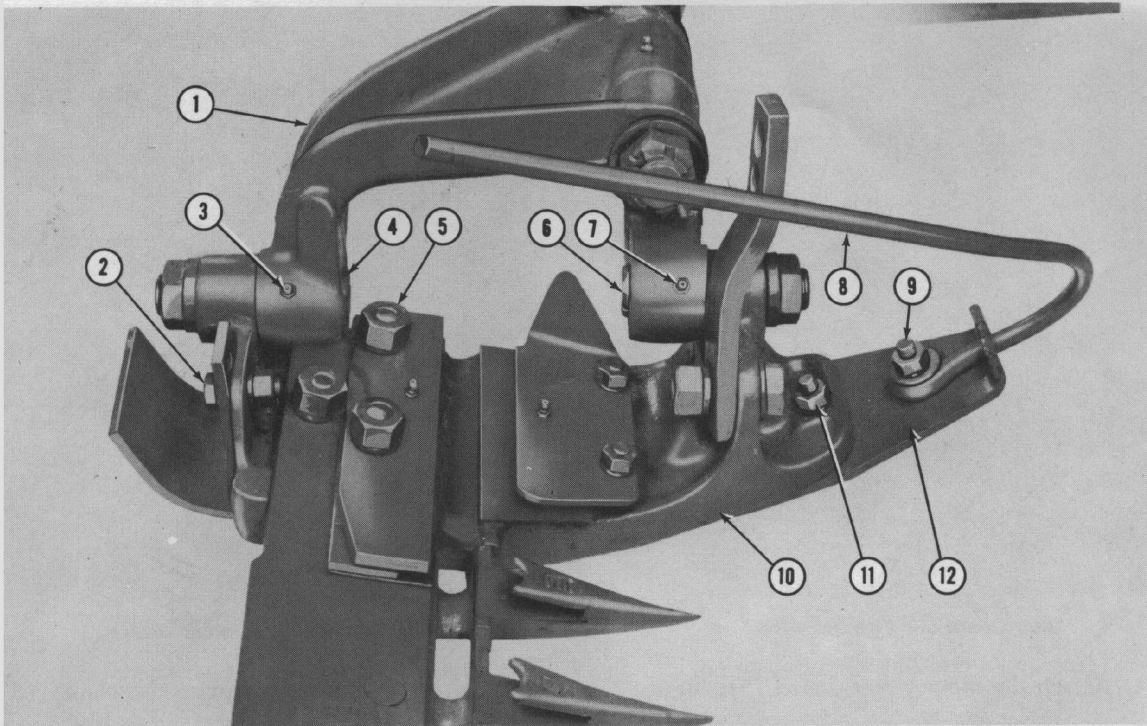

Figure 6
8. Attach the cutter bar inner shoe (10), Figure 6, to the drag bar hinge (1) as follows:
- Remove the nut (5) from the knife guide plate bolt and position the hinge between the holes on the inner shoe as shown.
- Coat the hinge pins with grease, align the holes and insert the hinge pins (4) and (6), Figure 6, from the inside out.
- Replace and tighten the nut (5), Figure 6, and secure the hinge pins with lock washers and nuts provided in the bag of parts.
- Insert the fittings (3) and (7), Figure 6,
- Attach the inner shoe sole (12), Figure 6, to the inner shoe (10) with a $\frac{7}{16}$ " x $1\frac{1}{2}$ " carriage bolt (11) lock washer and nut. Attach the rear of the sole to the shoe in the desired hole with a $\frac{1}{2}$ " x $1\frac{1}{4}$ " bolt (2), lock washer and nut.
- Attach the grass rod (8), Figure 6, to the forward end of the sole (12) with a $\frac{7}{16}$ " x $1\frac{1}{2}$ " carriage bolt (9), flat washer, lock washer and nut as shown.